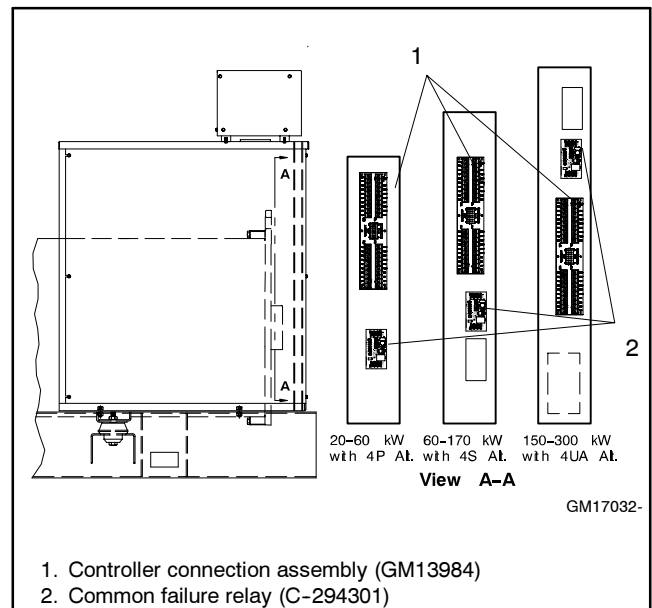

Figure 2 Controller Connection Assembly Mounting Locations in Junction Box (20–300 kW)
- 2.1.2 Attach the controller connection assembly (GM13984) to the junction box using six screws (X-51-3), spacers (X-712-9), and nuts (X-6210-4). Place the spacers between the controller connection assembly and the junction box bracket. See Figure 2 for the mounting location.
3.1.1 Mount the common failure relay (C-294301) to the junction box using four screws (X-51-3), spacers (X-712-9), and nuts (X-6210-4). Place the spacers between the common failure relay and junction box bracket. See Figure 2 for the mounting location.